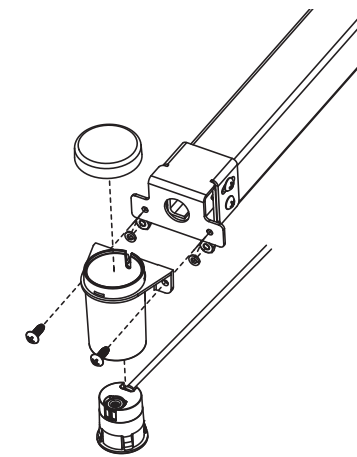

Figure 6
5. Assemble the sensor and housing. Insert the sensor into its housing. See **Figure 6** on page 2.